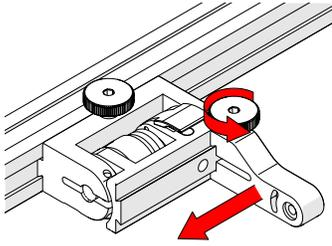

Fig. 168 - Position swing arm
5. Loosen the swing arm knob and slide the swing arm to the opposite end of the probe holder bracket (*Fig. 168*) or preferred position. Tighten swing arm knob.